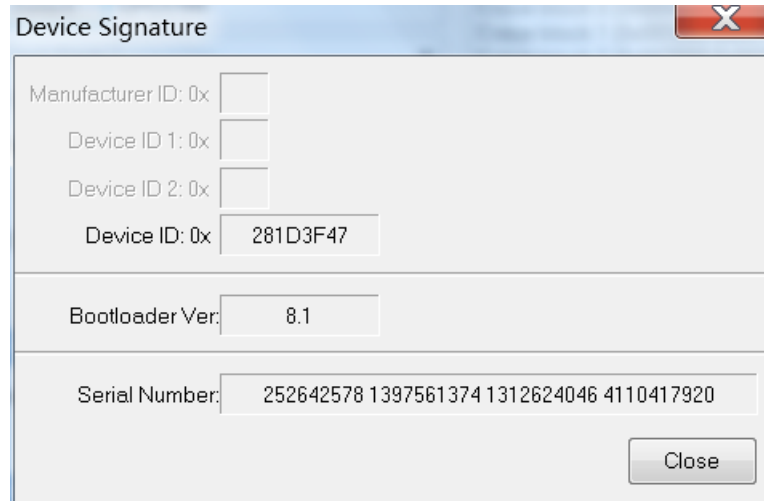

Figure 3-17
(4) Connect UART to COM and click ISP->Read Device Signature, then Flash Magic will recognize LPC1788ID. Refer to figure3-17: